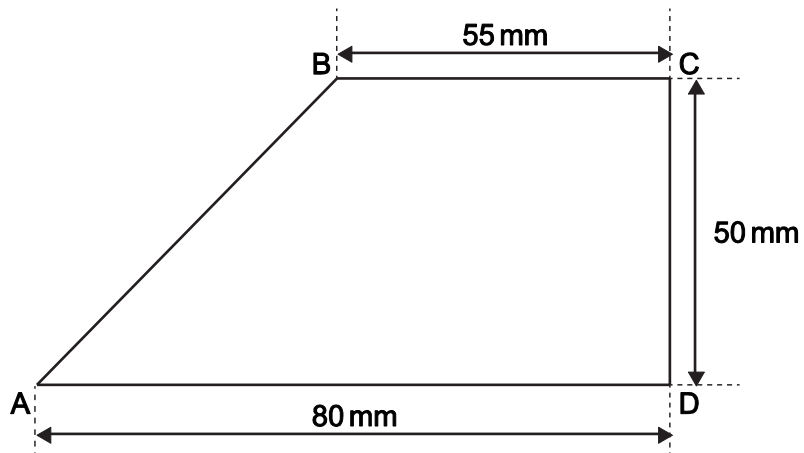
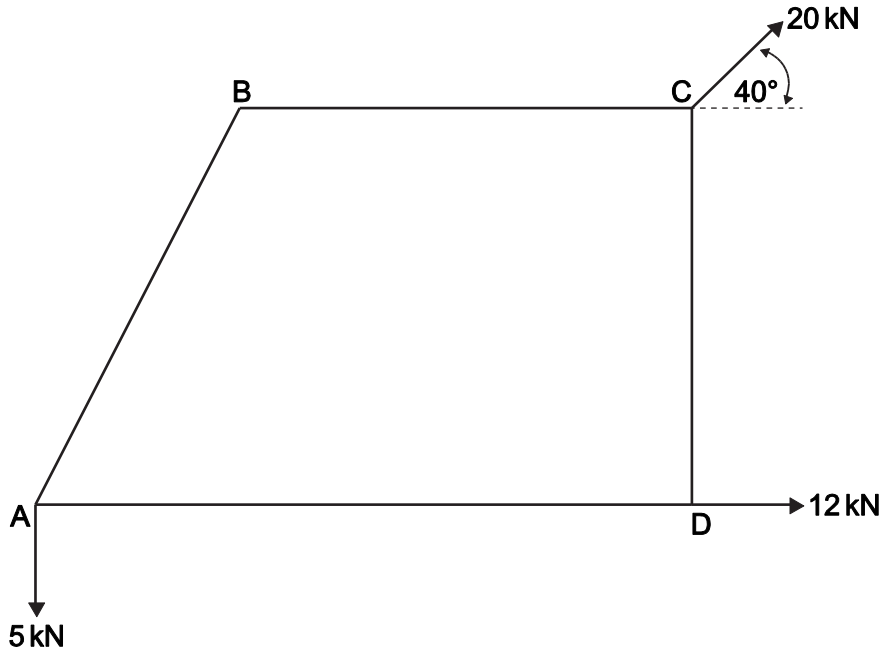

Fig. 1
Fig. 2
- 1 (a) Fig. 1 shows a trapezium shaped plate ABCD.
(b) The plate in Fig.1 is acted on by three forces. The forces are shown in Fig. 2.